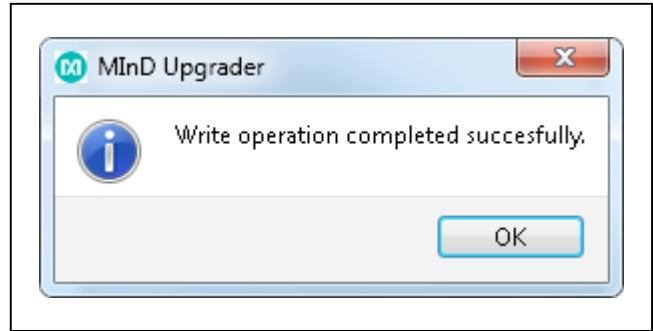

Figure 34. Completion Message
- 5) When the uploading is terminated successfully, the message shown in Figure 34 appears. If a failure message appears, see the Troubleshooting section.